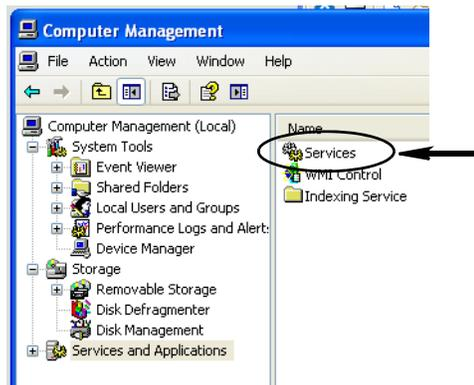

FIG. 36
- c. Double click on Services (FIG. 36).